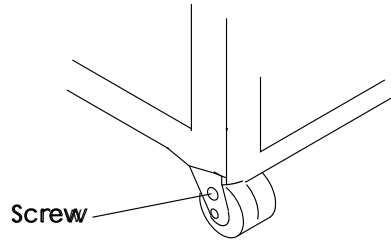

Figure 4-3. Caster Lock Screw
- Step d. ____ Move the 3746-900 to its final resting position and open the front and rear doors. Tighten the caster lock screws on the front wheels (see Figure 4-3 on page 4-5).
- Step e. ____ Move the 3746-900 to its final resting position and open the front and rear doors. Tighten the caster lock screws on the front wheels (see Figure 4-3).
- Step e. ____ Move the 3746-900 to its final resting position and open the front and rear doors. Tighten the caster lock screws on the front wheels (see Figure 4-3 on page 4-5).